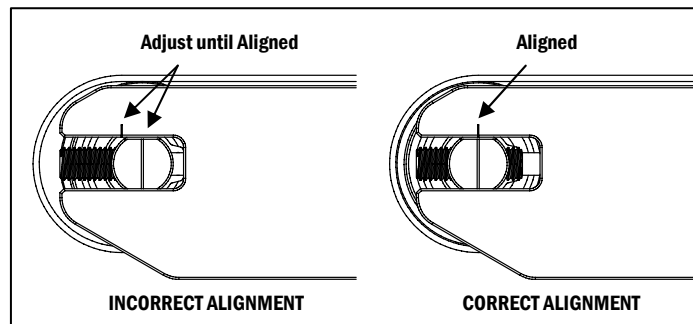

Figure 21
h. Set the initial tension of the conveyor belt (Neutral) by aligning the index marks on the Tail Pulley Assembly to the index marks on the Tension Release Tail Assembly (**Figure 21**).